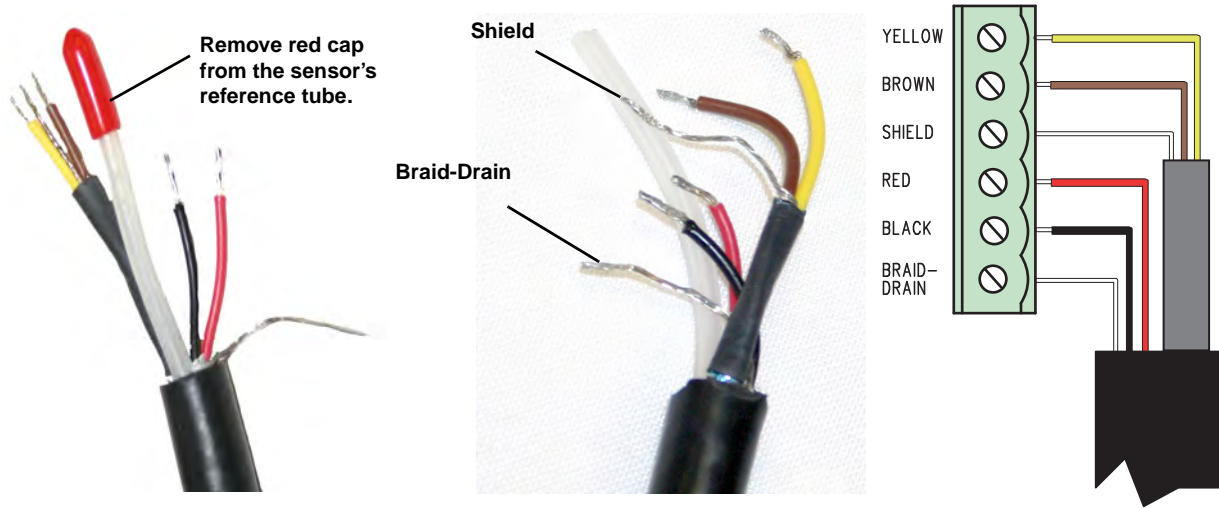
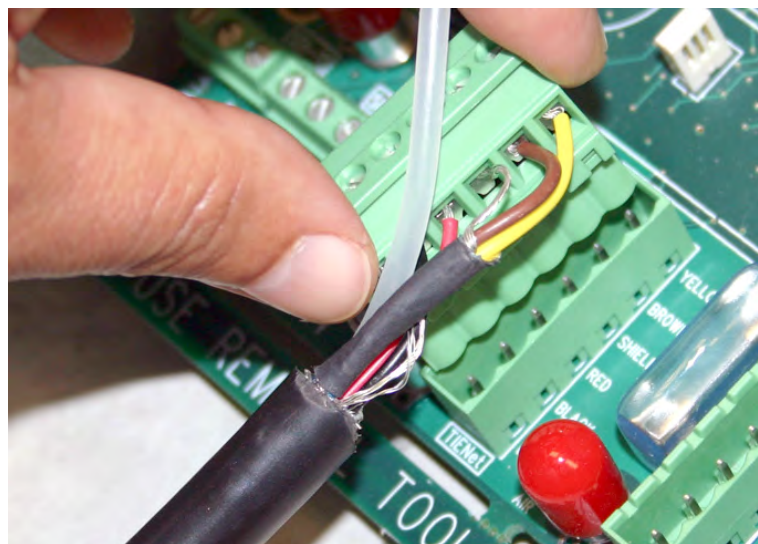

Figure 2-7 TIENet Device terminal connections
Figure 2-8 Attach wired terminal strip to case board socket
4. Attach the wire ends to the terminal strip as shown in Figure 2-7, then press the terminal strip back down into its socket on the case board, as shown in Figure 2-8, taking